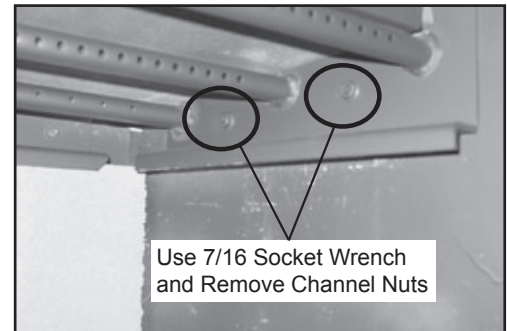

Figure 24.2
3. Remove the 2 channel nuts (7/16) and 2 bolts (3/8) inside of chamber (Figure 24.2).